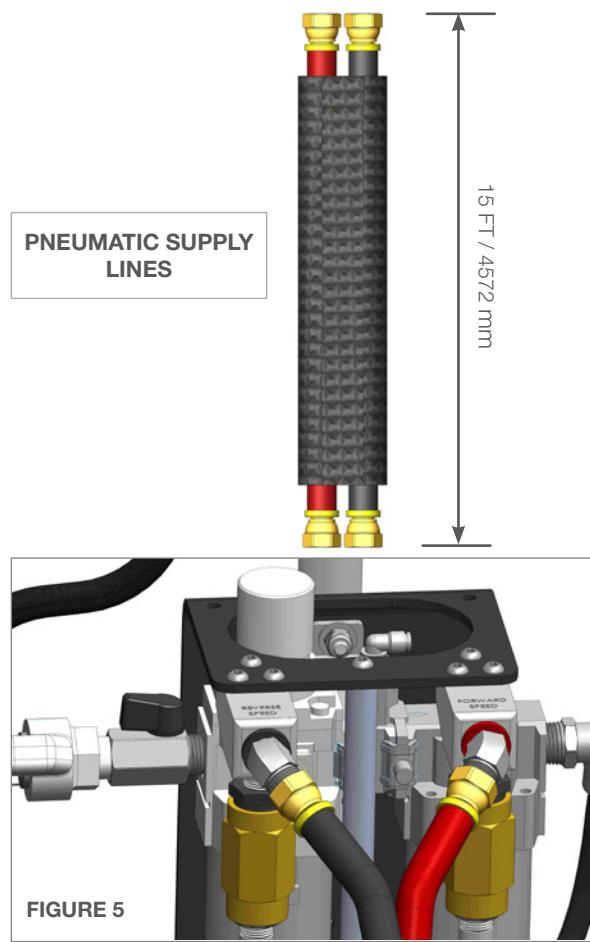

FIGURE 5
5. The Quarter Plate Flange Mount option is now ready to be loaded with a high pressure hose. (**Figure 5**) Go to page 17, "Hose and Collet Installation" for instructions.